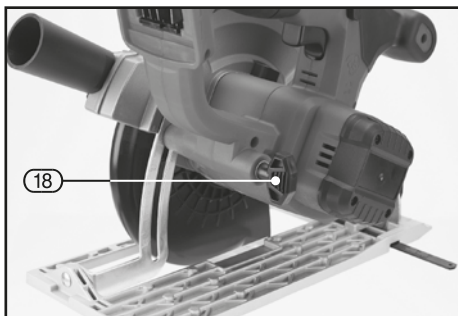

FIG.9
9.3 CUTTING DEPTH ADJUSTMENT – FIG.9
- To adjust the cutting depth, loosen the cutting depth adjustment knob (18).